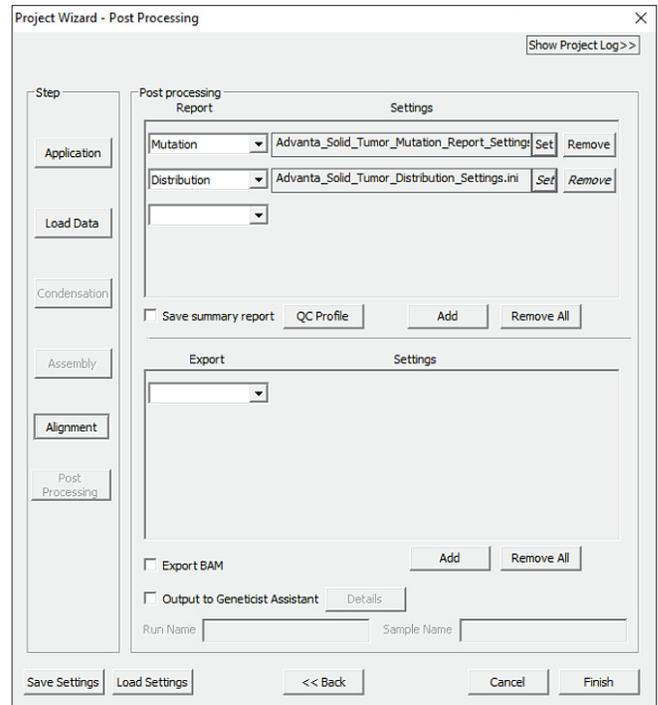

Figure 7. Project Wizard single-sample report settings
- 7 Click the Post Processing button to ensure that the Mutation Report is pointed to the correct Settings file location, either Advanta_Solid_Tumor_Mutation_Report_Settings.ini or another desired Mutation Report settings file saved from a previous run, shown in Figure 7.